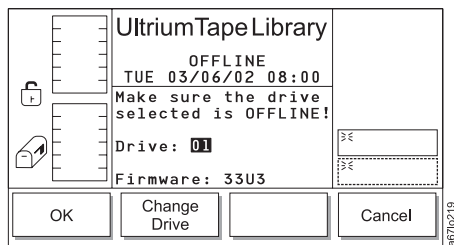

Figure 4-190. Drives Dialog
2. Press the button below the **Drives** softkey. The Drives Dialog displays the number of a drive in the library and its current level of firmware (see Figure 4-190).